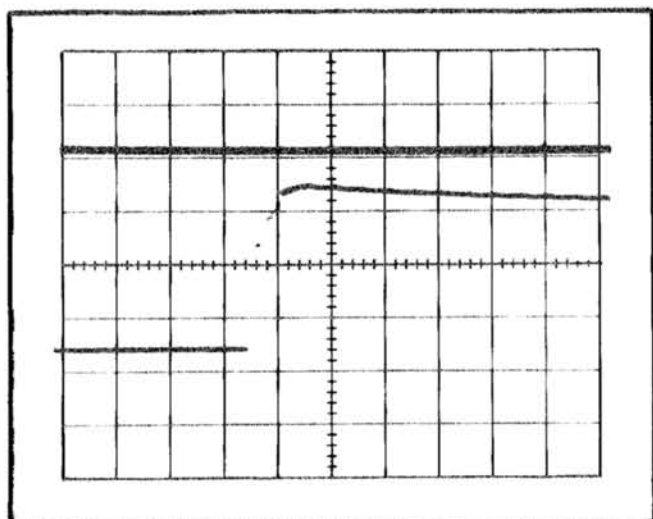

Fig. 5-11. Typical CRT display showing delay time jitter.
c. CHECK—Jitter on the leading edge of the pulse does not exceed 1 division (1 part in 50,000 of 10 times the TIME/DIV setting). See Fig. 5-11. Disregard any slow drift.